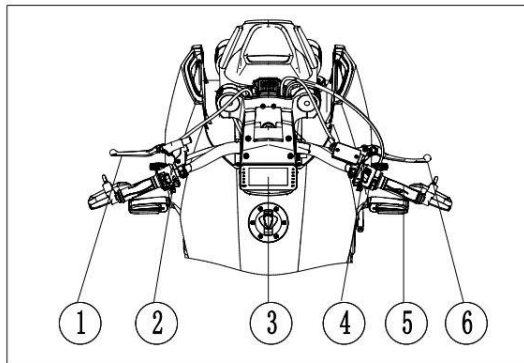

FIG 3
3、 Front Body (Fig 3)
- ① Clutch handle
- ② Left switch combination
- ③ Instrument
- ④ Right switch combination
- ⑤ Throttle handle sleeve
- ⑥ Front brake handle